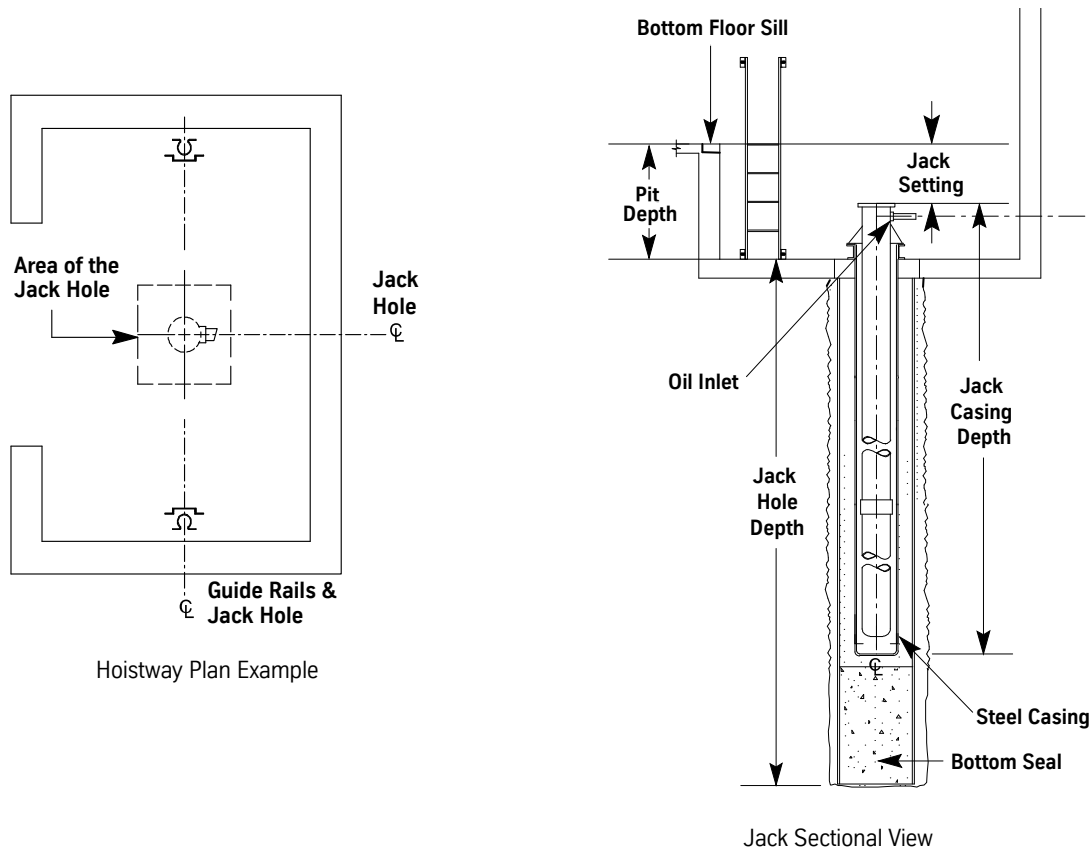

Figure 20 - Hoistway Plan and Sectional View
1. Use the job layouts that include a sectional view and a hoistway plan to determine the proper location for the jack assembly. For an example, see Figure 20.